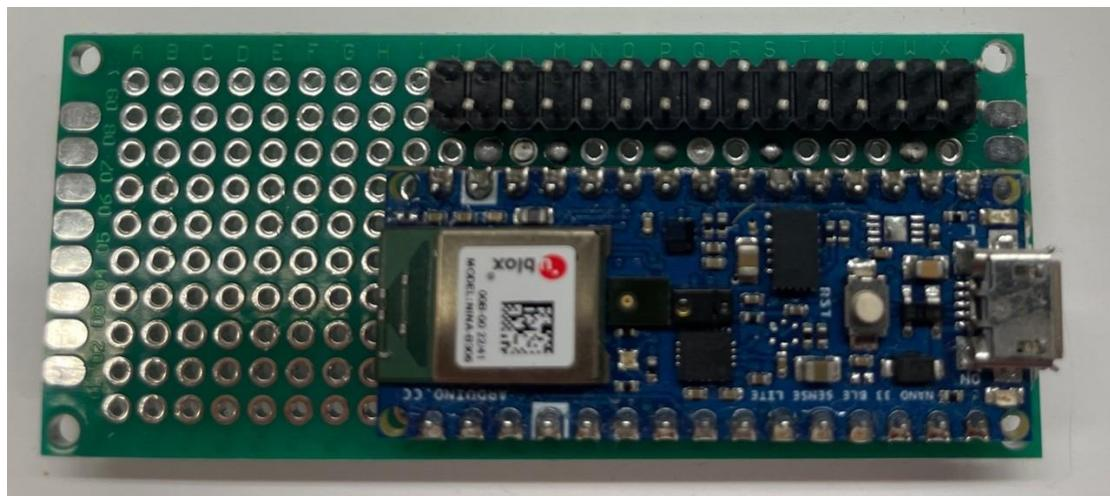

Figure 2.10 - Top side of board and pins
6. The Arduino can then be soldered to the protoboard along with the pin headers as shown. Note: the usb connector should extend beyond the board as shown with the pin headers closer to the analogue pin side (left side) of the board. See Figure 2.10.